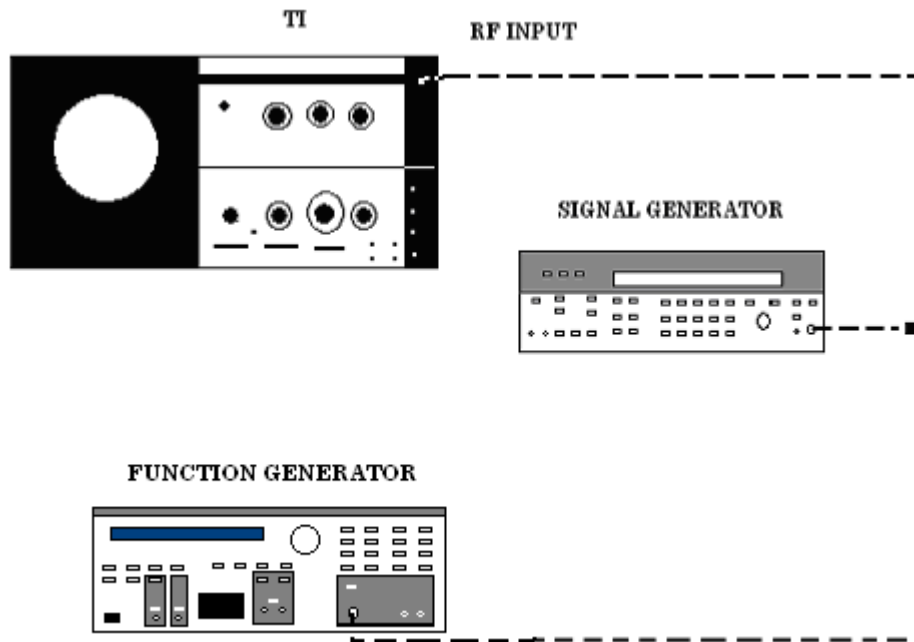

Figure 16. Spurious responses - equipment setup.
(3) Connect equipment as shown in figure 16.